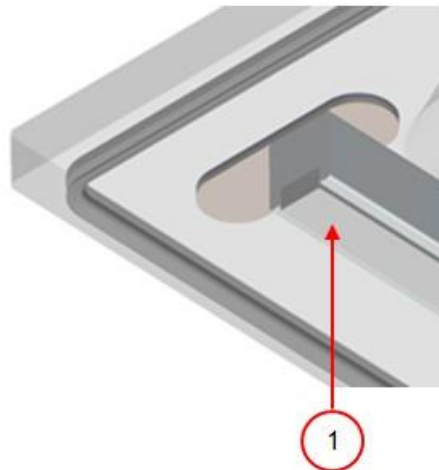

Figure 21: Replacing the Silicone Rubber of the Silicone Holders
1. Pull the old silicone rubber from the holder, see *Figure 21: Replacing the Silicone Rubber of the Silicone Holders* on page 56.